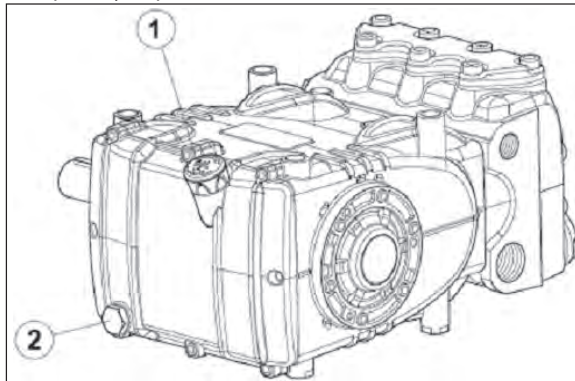

Fig. 3
Check the oil level and top up if necessary using the oil dipstick pos. ①, Fig. 3.
The correct checking of the oil level is made with the pump not running, at room temperature. The oil change must be made with the pump at working temperature, removing: the oil dipstick, pos. ①, and then the plug pos. ②, Fig. 3. The oil check and change must be carried out as indicated in the table in Fig. 14 chapter 11. The quantity required is ~ 2 liters.